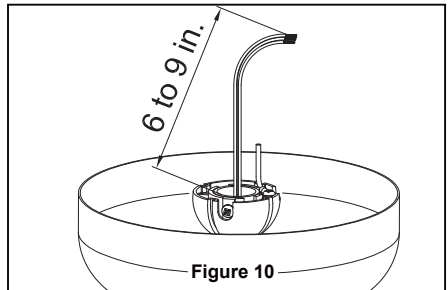

Figure 10
- ☐ 10. Cut off excess lead wire approximately 6 to 9 inches above top of the downrod. Strip insulation off 1/2 inch from the end of each lead wire. (Figure 10)